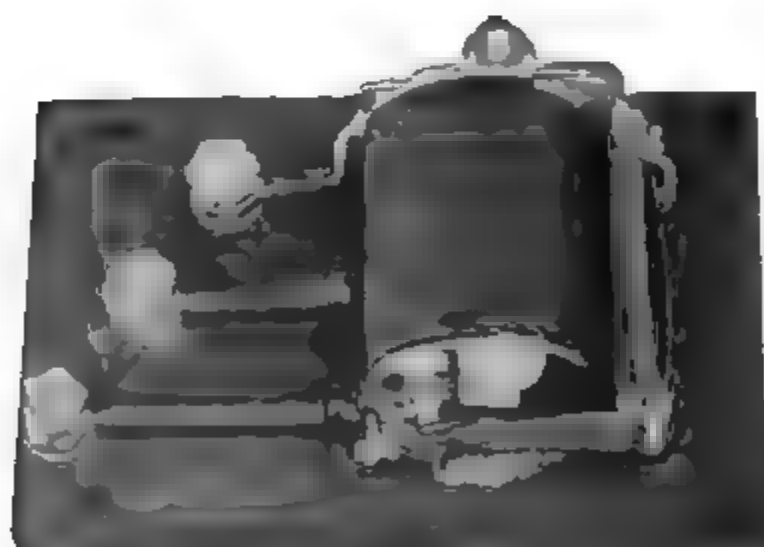

Fig. 354 Wagner Cut-Out
**Control. Battery Cut-Out.** The complete instrument, minus its cover, is shown in Fig. 354. It is of standard design and is intended